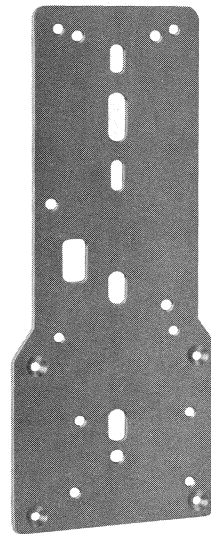

Fig. 13—1A Backplate
2.23 The 1A backplate made of sheet steel (Fig. 13), is intended for use on coin collectors equipped with aluminum backplates to reduce the possibility of breaking away the lower housing by means of a pry bar.